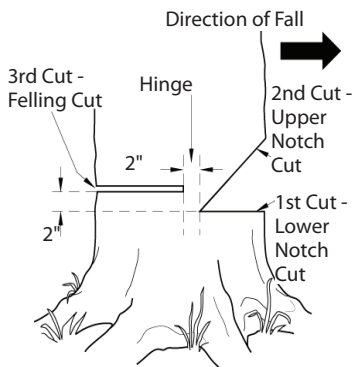

Figure 15 - Felling A Tree
A properly placed felling notch will determine direction tree will fall. Place felling notch on side of tree in direction you want tree to fall (see Figure 15).
1. Make lower notch cut as close to ground as possible. Hold saw so guide bar is horizontal. Cut 1/3 the diameter of tree trunk (see Figure 15). *Note:* Always make this horizontal lower notch cut first. If you make this cut second, tree can pinch chain or guide bar.
Example: If lower notch cut is eight inches deep, start upper notch cut eight inches above it. Cut downward at 45° angle. The upper notch cut should meet end of lower notch cut (see Figure 15).
1. Make felling cut two inches higher than lower notch cut and on opposite side of tree (see Figure 15, page 14). Keep felling cut parallel to lower notch cut.
WARNING: Do not cut all the way through tree. Leave about two inches of tree diameter uncut directly behind felling cut (see Figure 15). This uncut portion acts as a hinge. The hinge helps keep tree from twisting and falling in wrong direction.